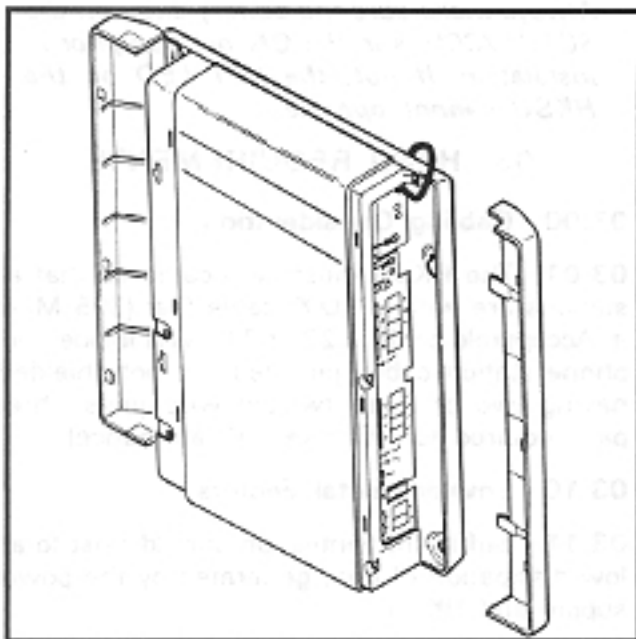

FIGURE 2—HKSU SIDE COVERS
- 1) Remove both side covers from the HKSU (Figure 2) by pressing in on the two small ribbed sections on each side cover to free the holders.